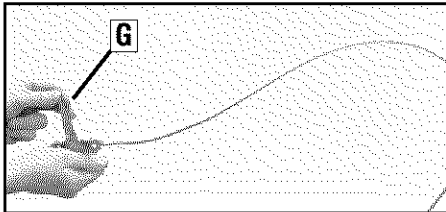

Figure 2-4: Carefully unwrap Wheel Gear Lever and move lever to DISENGAGE.
7. To remove the tiller from its shipping platform, first carefully unwrap the wheel gear cable (with attached lever - see Figure 2-4) from around the chassis. Move the Wheel Gear Lever (G) to the DISENGAGE position--this allows the wheels to rotate freely. Use the handlebars to roll the tiller off the platform.